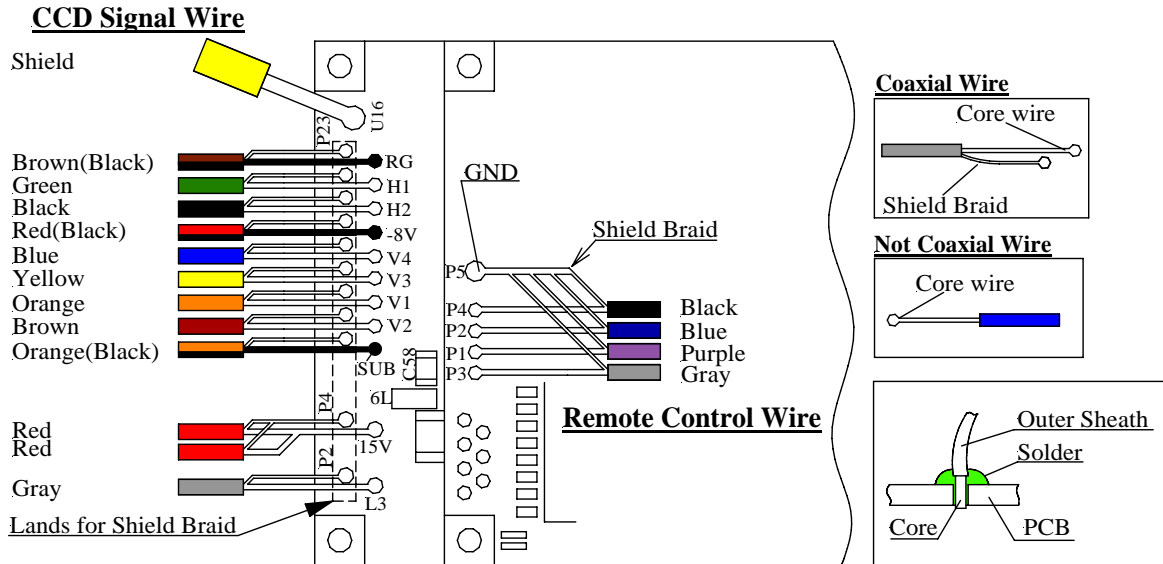

Fig.5-2-4
- 2) Solder CCD Signal Wire and Remote Control Wire to CCD Drive PCB Assy (A-S701) as shown in Fig.5-2-4.